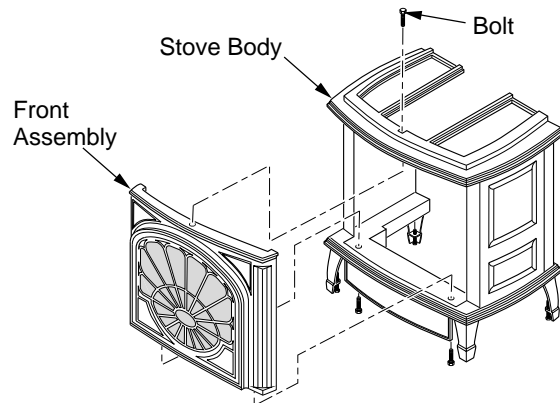

Figure 13 - Removing Front Assembly
13. Remove 2 bolts from bottom of stove and discard. Remove bolt from the top of the stove to remove the front panel assembly (see Figure 13).